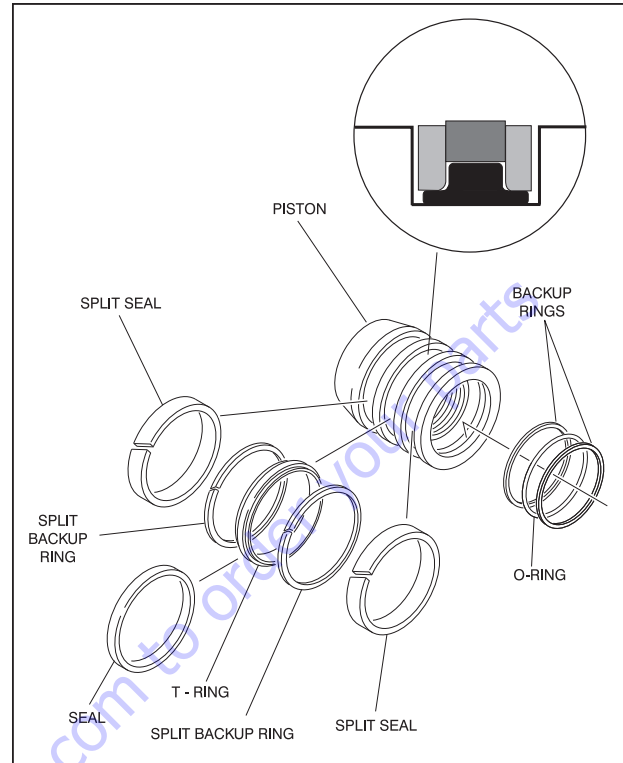

Figure 4-33. Piston Seal Kit Installation
NOTE: The backup rings for the solid seal have a radius on one side. This side faces the solid seal. [See magnified insert in (See Figure 4-33.)] The split of seals and backup rings must be positioned so as not to be in alignment with each other.
16. Place new guide locks and seals in the applicable outside diameter grooves of the cylinder piston. (See Figure 4-33.)